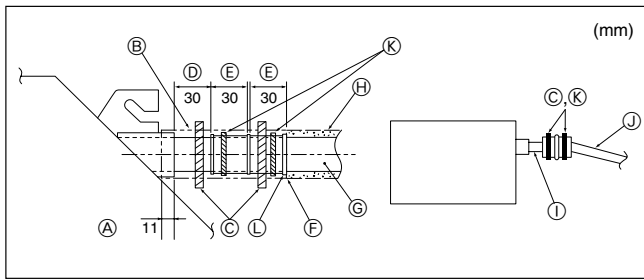

Fig. 6-2
1. Connect the drain socket (supplied with the unit) to the drain port. (Fig. 6-2) (Affix the tube using PVC adhesive then secure it with a band.)